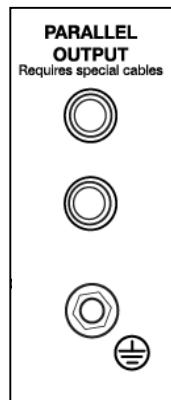

Fig 1
3. Connect the ground wire on the grounding connector on both generators and tighten the cap nut. (Fig 1)